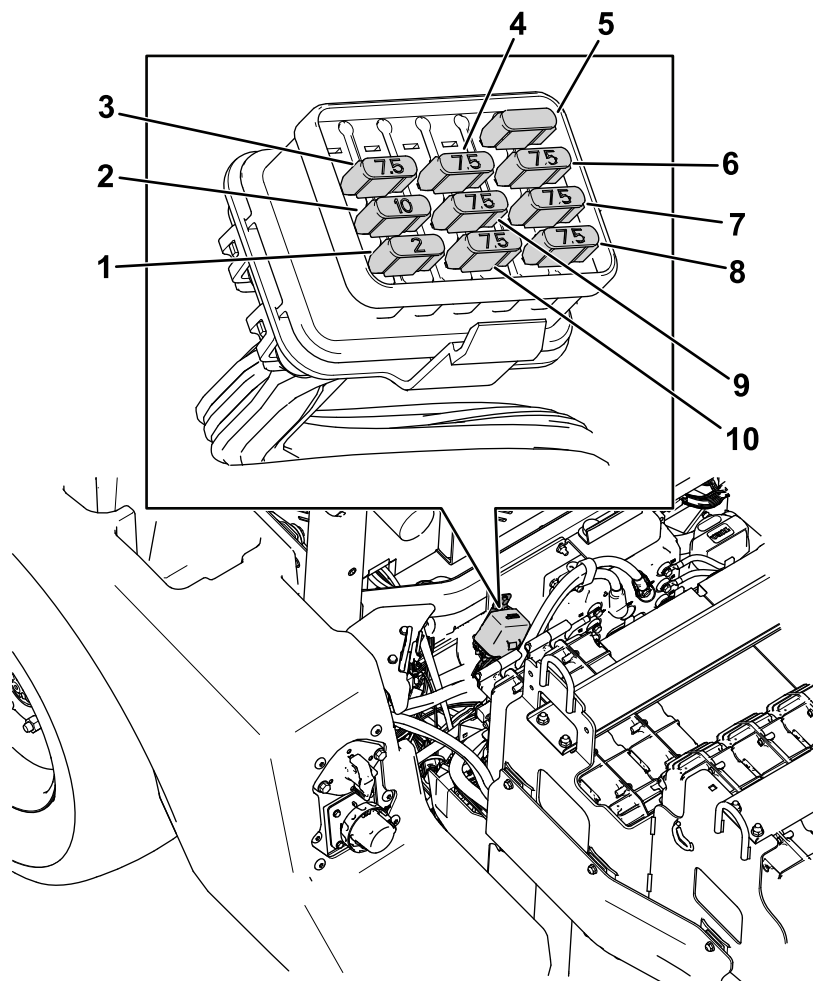

Figure 51
- Raise the hood to locate a fuse block with several fuses (Figure 51).